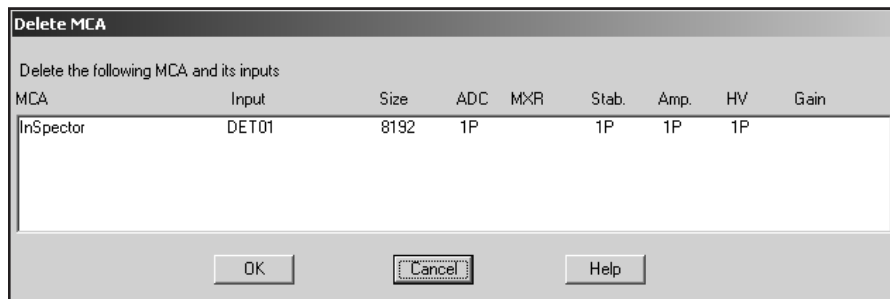

Figure 15 The Delete MCA Dialog
2. Clicking on the **Delete MCA** command in the **Edit** menu. When you do that, the Dialog Box shown in Figure 15 will pop up. Click on **OK** to remove the entry.